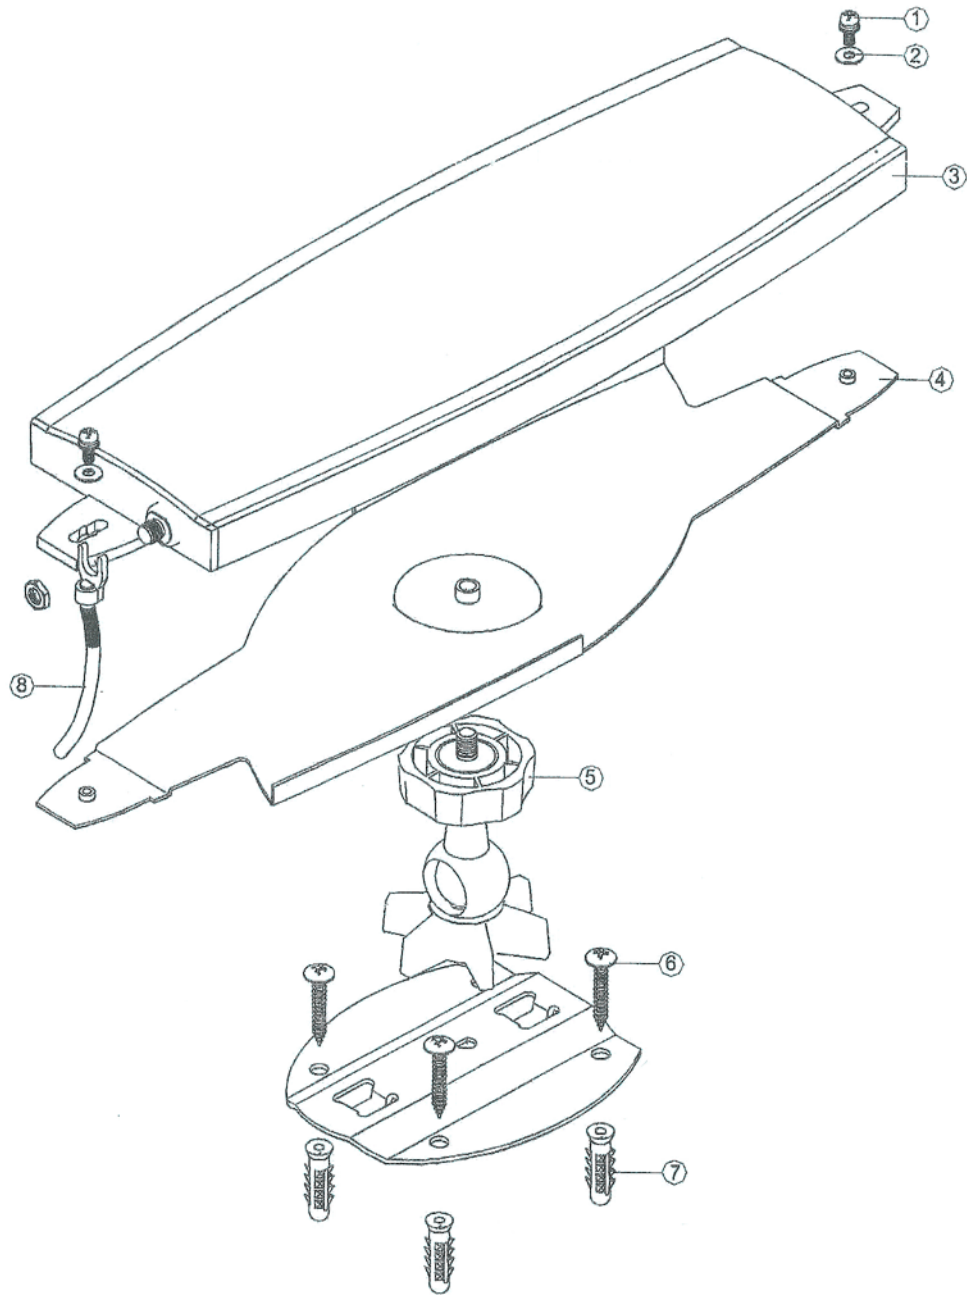

Figure 2-18: Wall Mounting the 3.5 GHz Detached Antenna, with Pan & Tilt Capabilities
- 2 M3*8 Screws (1)
- 2 M3 washers (2)
- Antenna back plate (4)
- U-Joint Set (adjustable arm) (5)
- 4 5/32-16*1TP Wall Screws (6)
- 4 1/4" Wall anchors (7)
- Grounding Wire (8) - Not Used
- 1 Attach the adjustable arm to the wall following the directions in Figure 2-18.
- 3 Screw the back plate to the adjustable arm following the directions in Figure 2-18.